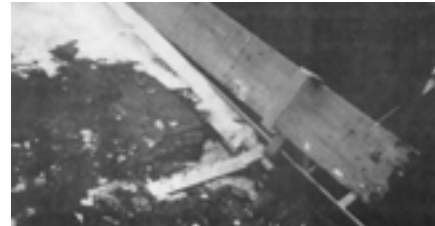

Figure 2
- i. i) Nail Rafter Bracket to solid rafter or truss using four (4) penny nails. (Figure 2)